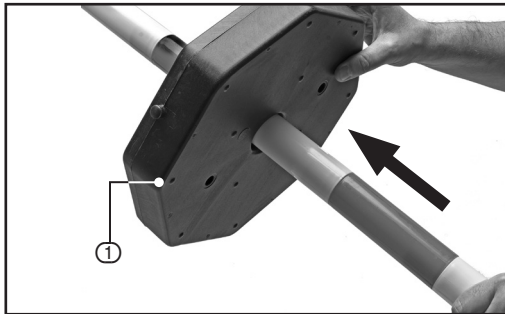

FIG. 2
4.2 FITTING THE POSTS TO THE BASES – FIG2.